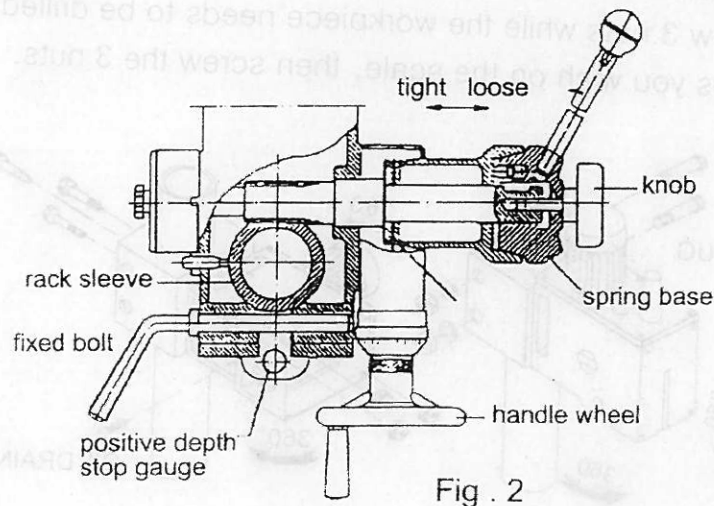

Fig . 2
(1) Preparing for Drilling (see fig.2) (Except addition power feed system).